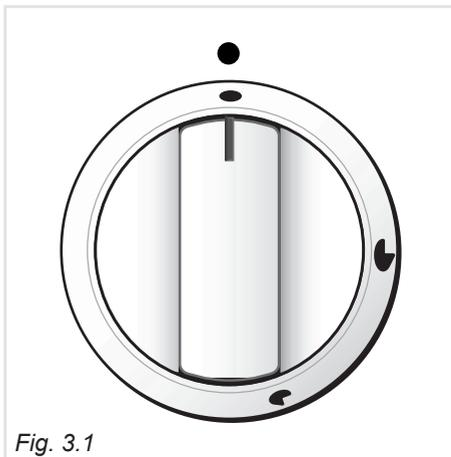
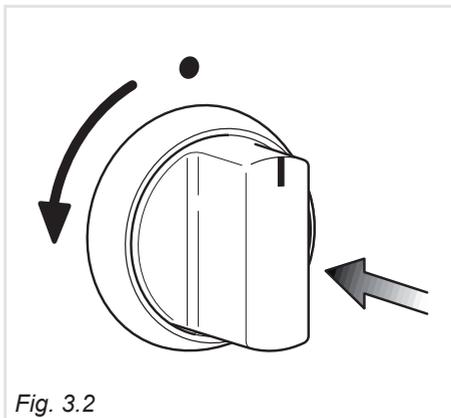

Fig. 3.1
Fig. 3.2
Each burner is controlled by a gas tap (fig. 3.1) assuring the opening and the closing of the gas supply.
1. Press in the corresponding knob and turn counter-clockwise (fig. 3.2) to the full flame position marked by the  symbol (fig. 3.1).